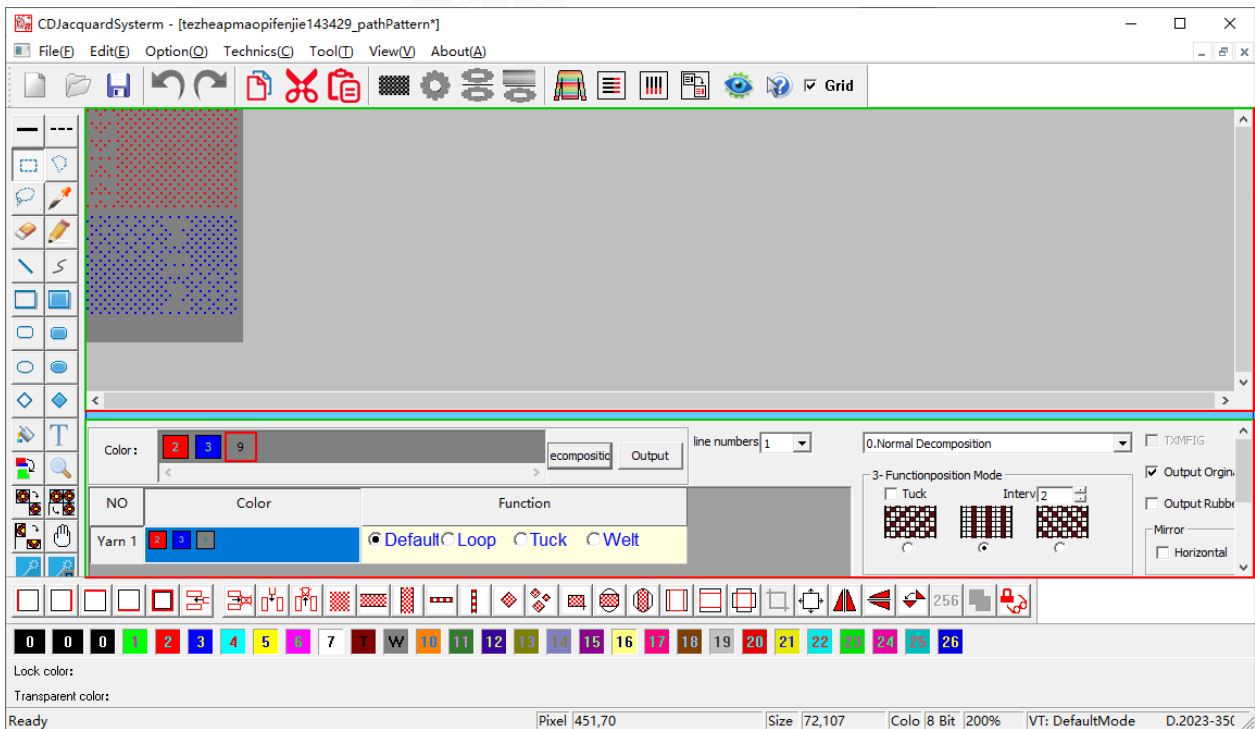

Figure 6-65
- (9) Click the decomposition button and click the output button to output the processing file, as shown in Figure 6-65.
- (10) Copy the processing files to the jacquard computer for operation and complete.
- (9) Click the decomposition button and click the output button to output the processing file as shown in Figure 6-65.